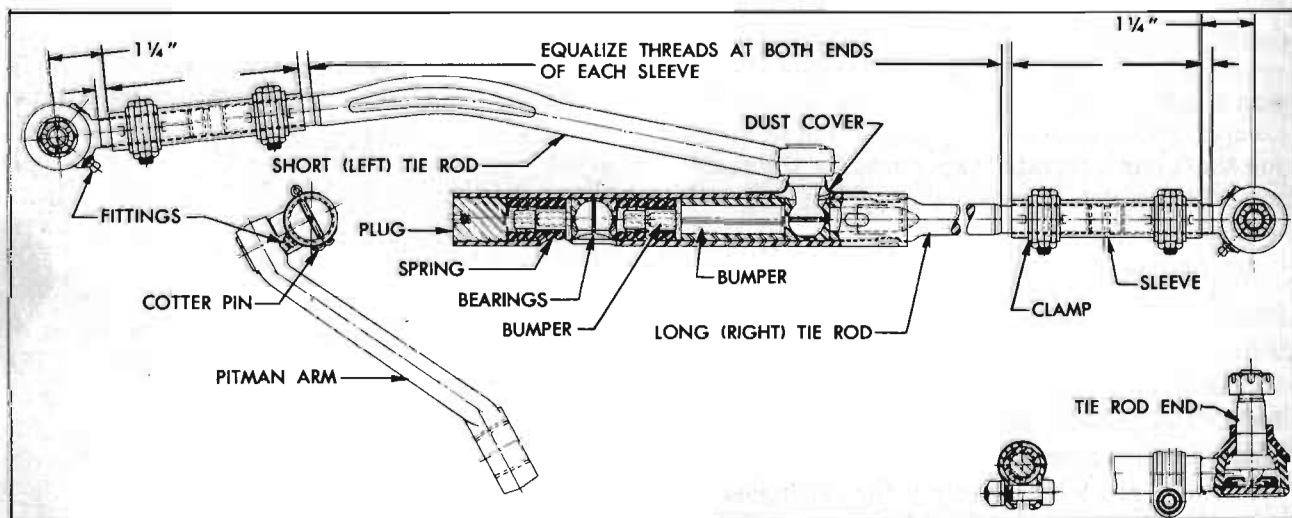

Figure 7-4—Tie Rods and Tie Rod Ends—Series 40-50
Heavy coil springs on each side of the pitman arm ball stud bearings and a threaded plug in the end of tie rod provide proper pressure between both sets of bearings and the ball studs. Flanged bumpers extending through both springs act as spring guides, permit a restricted movement of pitman arm ball stud and bearings as the springs absorb road shocks, and prevent the bearings from spreading and releasing the ball stud in the event of spring breakage. The spring tension and the clearances at ends of bumpers are adjusted by the threaded tie rod plug. See figure 7-4.
On *Series 40-50*, the tie rods are connected to the tie rod ends by internally threaded sleeves which provide for toe-in adjustment. The sleeves are slotted and provided with clamps at each end to lock them in place. See figure 7-4.
The tie rod end, which connects each tie rod to a steering arm, is a spring-load ball stud and socket unit assembly. A rubber dust seal fits over the stud where it emerges from the socket, to provide protection against entrance of dirt and water. See figure 7-4.
1. Disconnect steering tie rod from pitman arm by unscrewing tie rod plug until bearings will release the ball stud. See figure 7-4. Check tightness of pitman arm nut with 18" wrench.
ball stud. See figure 7-4. Turn the tie rod plug up solid then back off two turns and install cotter pin.